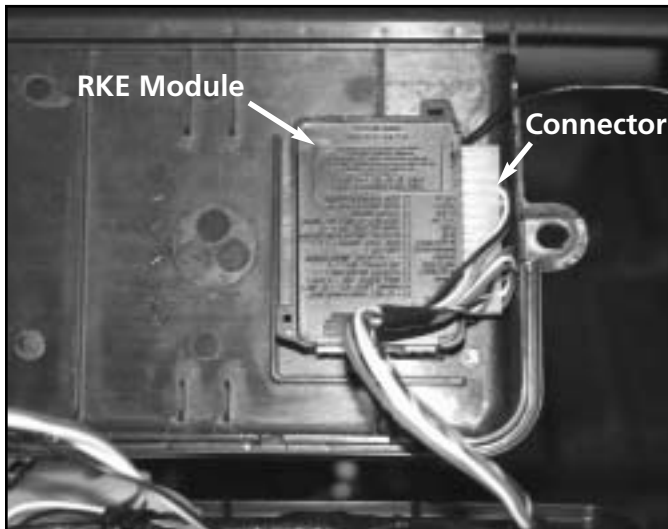

Figure S-27
5. Disconnect the RKE module wire harness connector. See figure S-27.